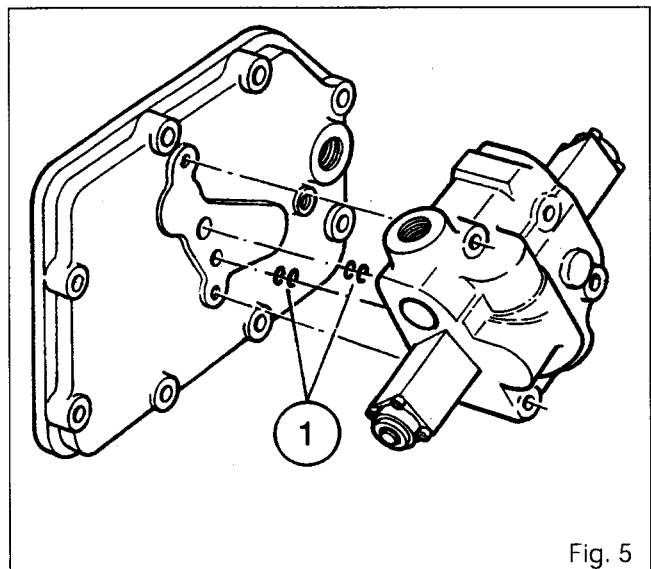

Fig. 5
5. Change the seals **(1)**, refit the valve (Fig. 5).